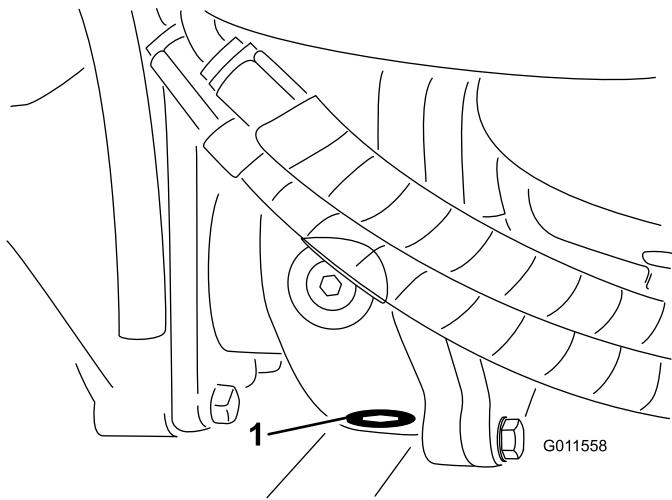

Figure 87
5. Clean the area around the drain plug at the bottom of the gearbox (Figure 87).